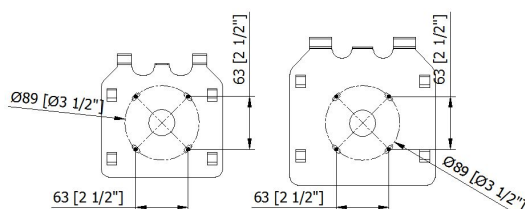

Figure 9
- Drill four corresponding holes in the mounting surface. Use the drilling patterns shown in Figures 9, below.